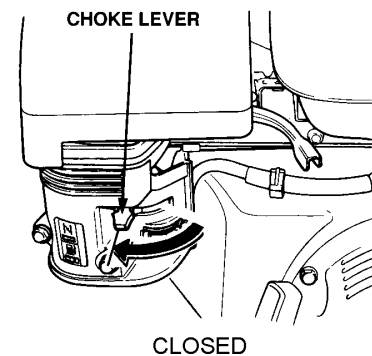

Figure 8. Engine Choke Lever (Closed)
3. Place the choke lever (See Figure 8) in the "CLOSED" position if starting a cold engine.